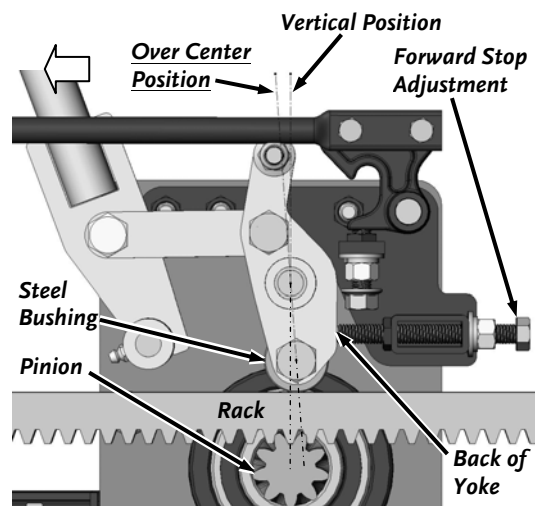

Figure 39
3. Lift the Safety Interlock Lever and push the Engagement Handle forward to position the Steel Bushing Yoke as close to vertical as you can and hold it there (**Figure 39**).